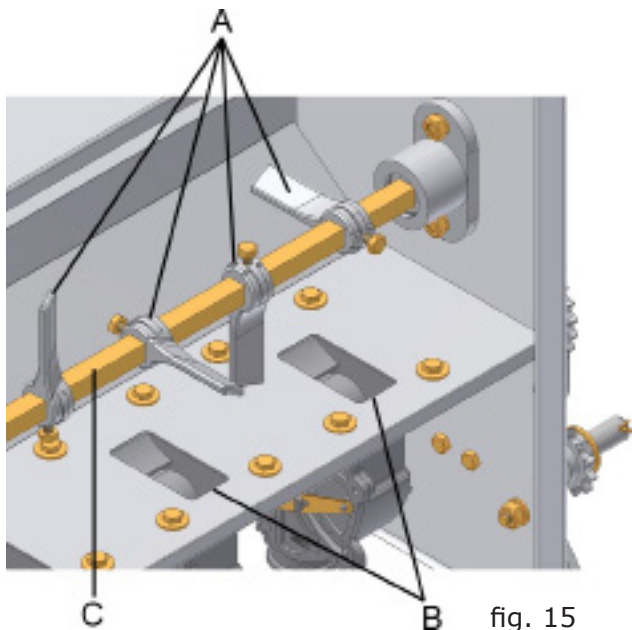

fig. 15
In order to move the wheat seed, and favor the displacement to the rotor, keep the movers (A) (fig.15) in the mounting position as close to the opening window of the rotor (B), keeping them the mounting position to 90° as in Figure 15.